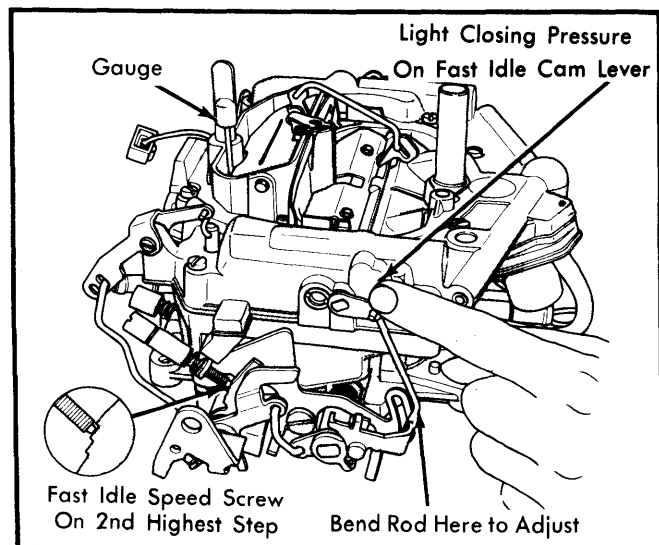

Fig. 10 Adjusting Fast Idle Cam Position
1) Position fast idle speed screw on second step of fast idle cam. Close choke valve by applying light closing pressure on fast idle lever. See Fig. 10.